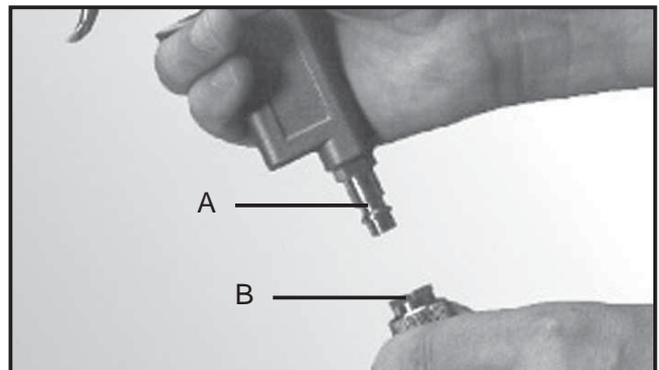

Fig. 1
Connect the accessory required to the quick release connector (B) on the end of the rubber hose (Fig.1), pushing fitting A of the accessory firmly inside B.